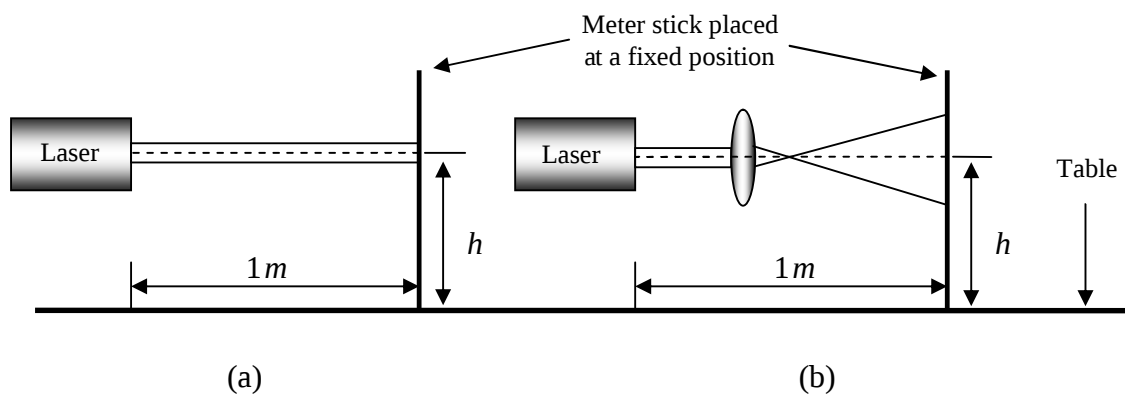

Figure 7: Illustration of Laser Alignment with Respect to the Lens Center. (a) Without Lens. (b) With Lens.
- Adjust the lens *both in the horizontal and vertical* directions until the *center* of the *expanded laser spot* hits the meter stick at *exactly the same previous point*. (see Figure 7).
- *Initially*, place the fiber's tip at 7 cm from the lens (larger than $f = 5\text{ cm}$). At this position, the laser beam being focused by the lens is relatively wide and therefore easier to locate (see Figure 7).